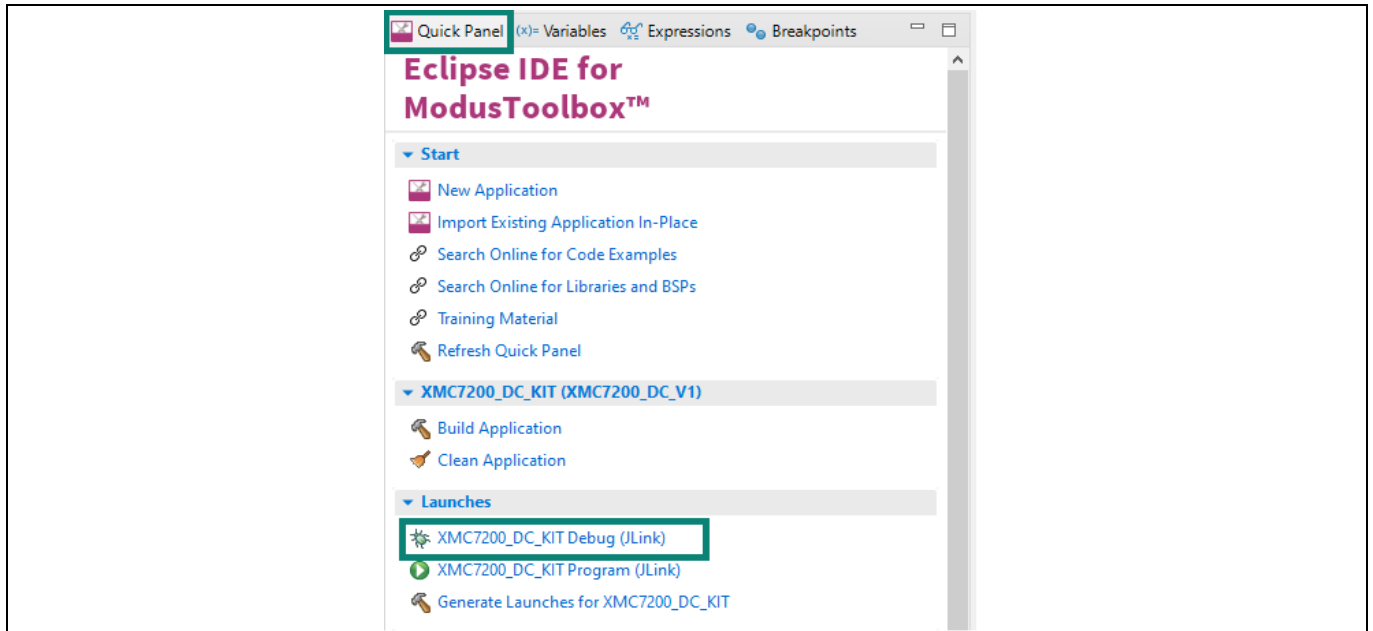

Figure 13 Debugging in the ModusToolbox™ software
- The ModusToolbox™ software has an integrated debugger. To debug a XMC7200D application, in the Project Explorer, select **<App_Name>** project. In the Quick Panel, scroll to the **Launches** section and click the **<App_Name> Debug (JLink)** configuration as shown in Figure 13. For more details, see the “Program and debug” section in the Eclipse IDE for ModusToolbox™ user guide.